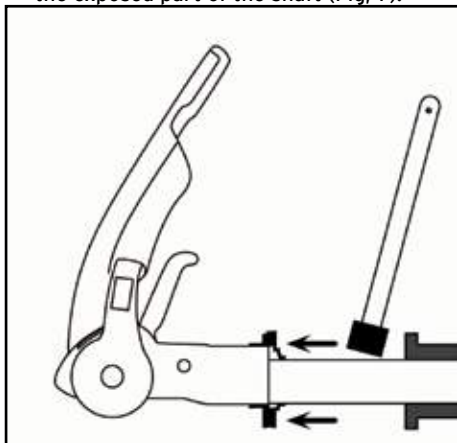

FIG. 7.
- b. Lubricate the draw-shaft sleeve via the grease nipples. In addition, push the gaiter forward and grease (DIN 51 825 KTA 3K) the exposed part of the shaft (Fig. 7).